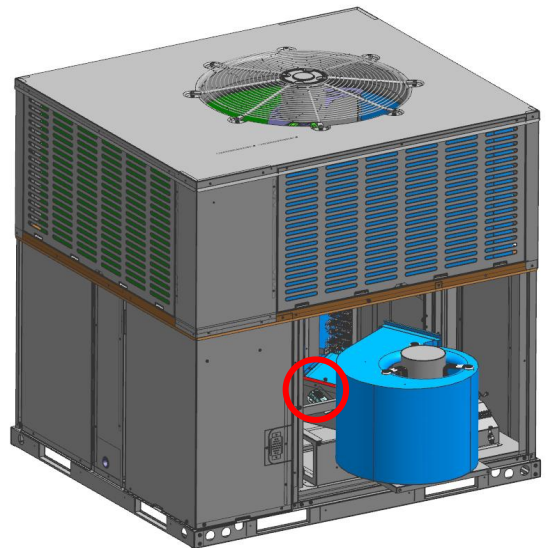

Figure c-2
3. Loosen the two screws on the support of the inner motor, and then remove the evaporator wind wheel to see the position of the refrigerant sensor as shown in Figure c-2.